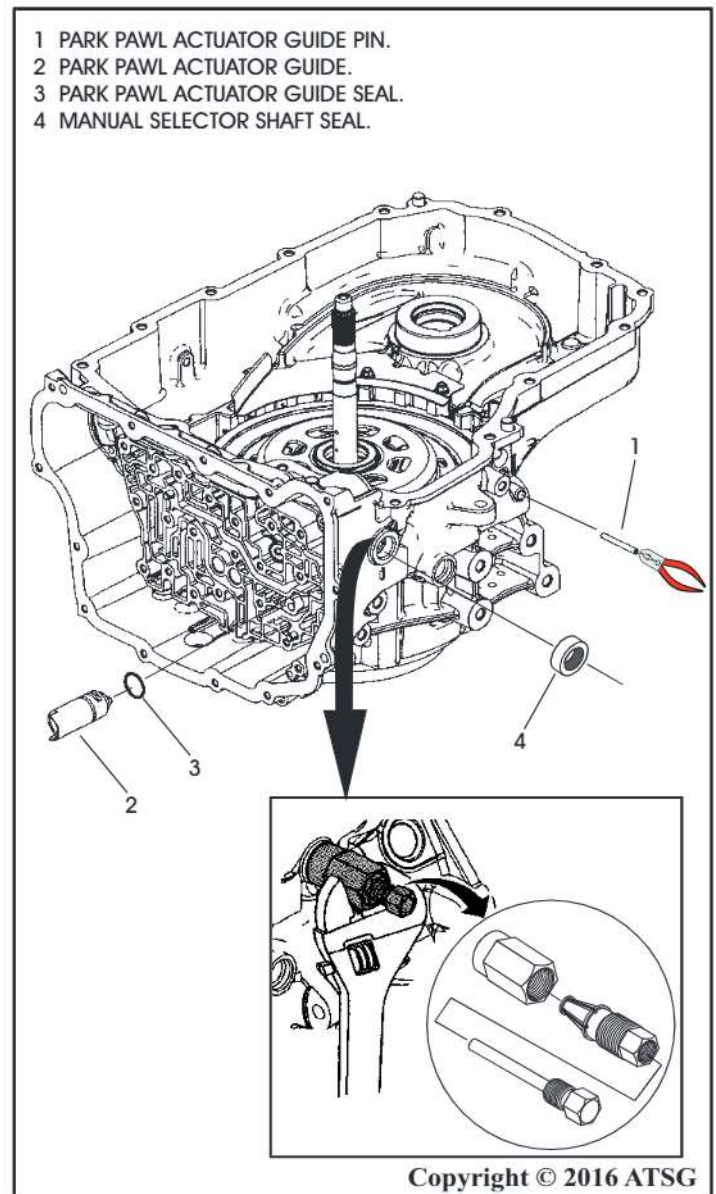

Figure 65
56. Remove park pawl actuator guide pin from transmission case as seen in Figure 65.
57. Remove park pawl actuator guide from transmission case as seen in Figure 65.
58. Remove o-ring seal from park pawl actuator guide, Refer to Figure 65, and discard.
59. Using the DT-45201 seal removal tool or a similar tool as seen in Figure 65, remove the manual selector seal and discard.